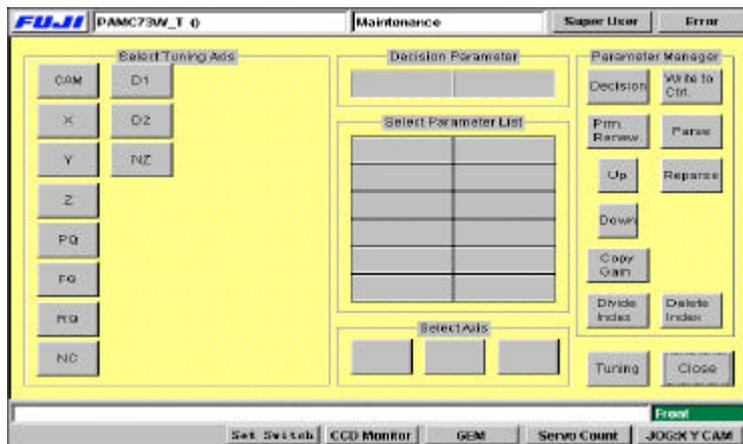

Figure 4
2. After the display changes to Fig.4, select the axis to be adjusted from [**Select Tuning Axis**]. Press again to cancel if necessary.